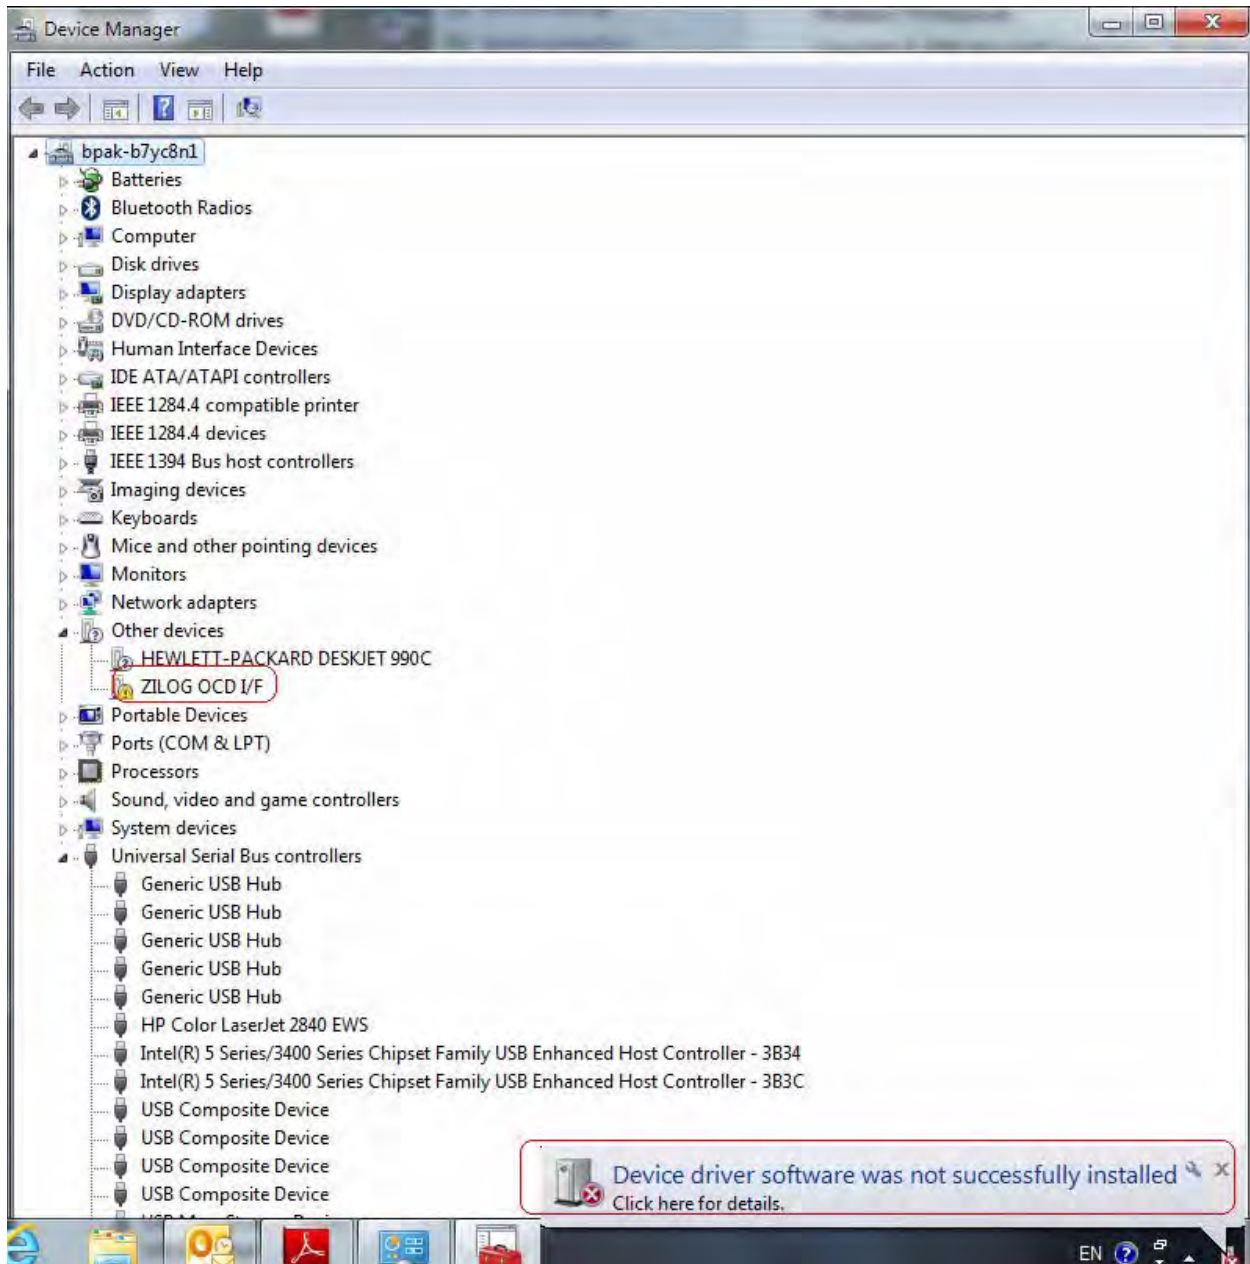
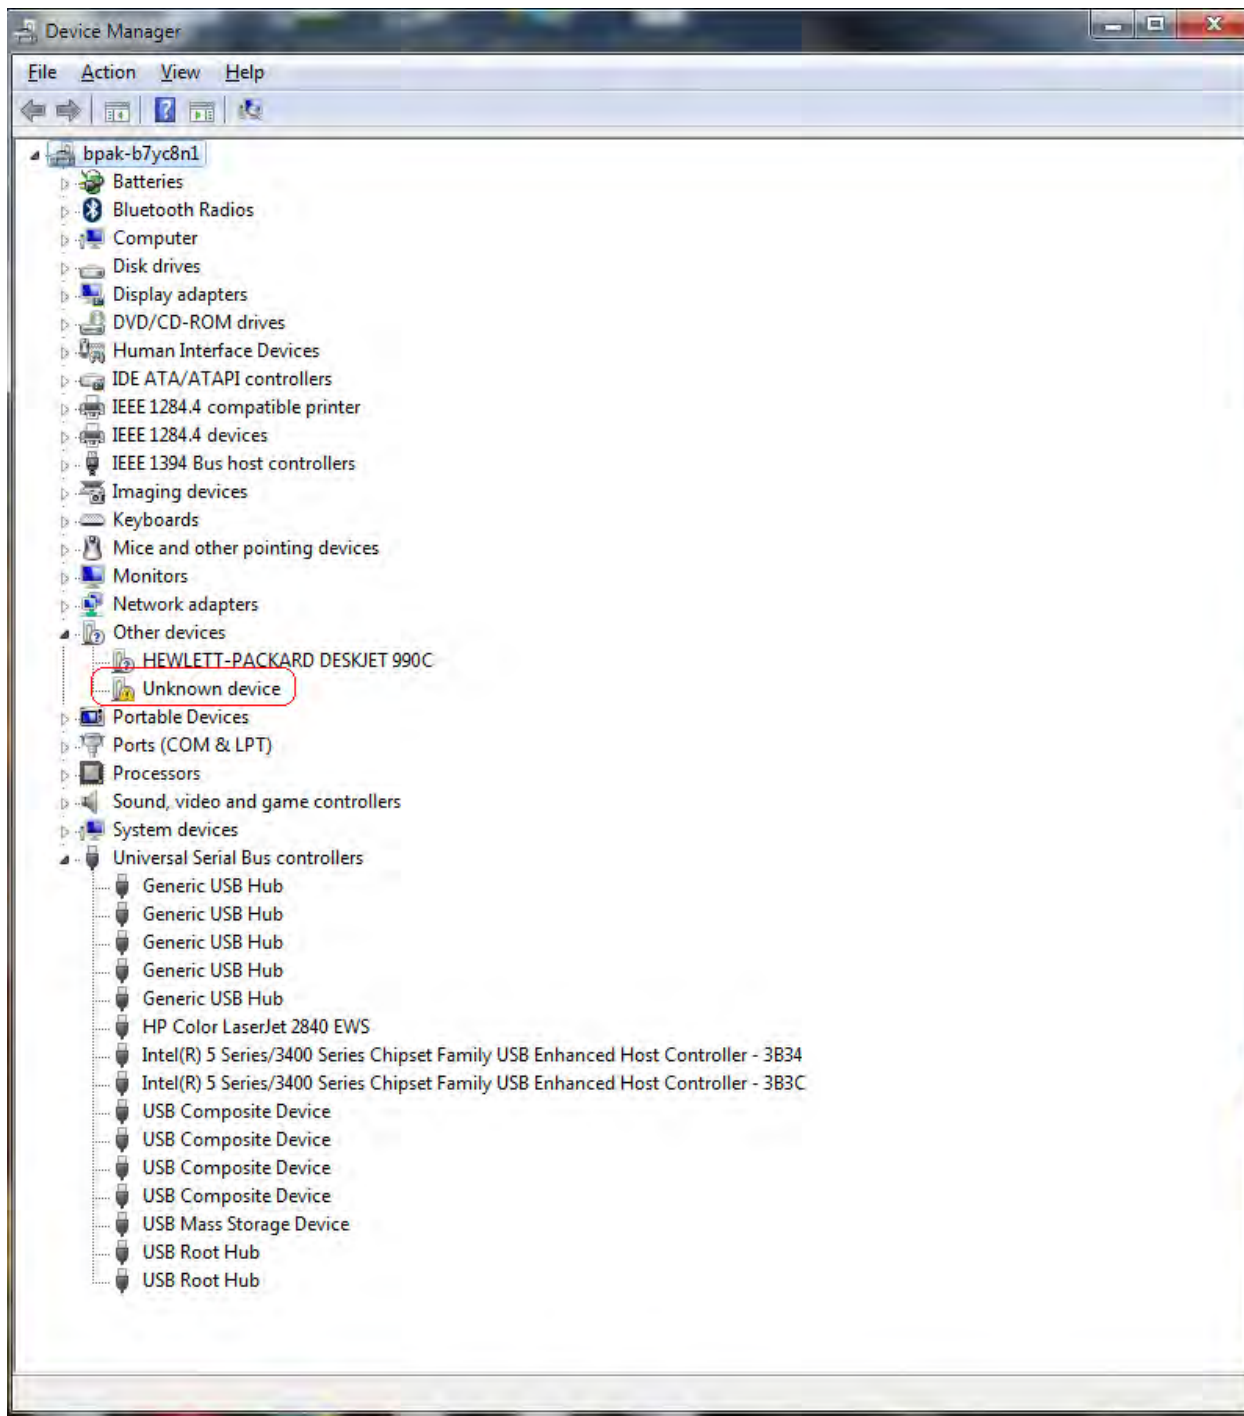

Figure 8. Unsuccessful Installation, Scenario 1
Figure 9. Unsuccessful Installation, Scenario 2
**IMPORTANT NOTE:** If you should encounter the scenarios presented in Figures 8 or 9, right-click your mouse on **ZILOG OCD I/F** (highlighted in Figure 8) or **Unknown device** (highlighted in Figure 9) and select **Update Driver Software...**